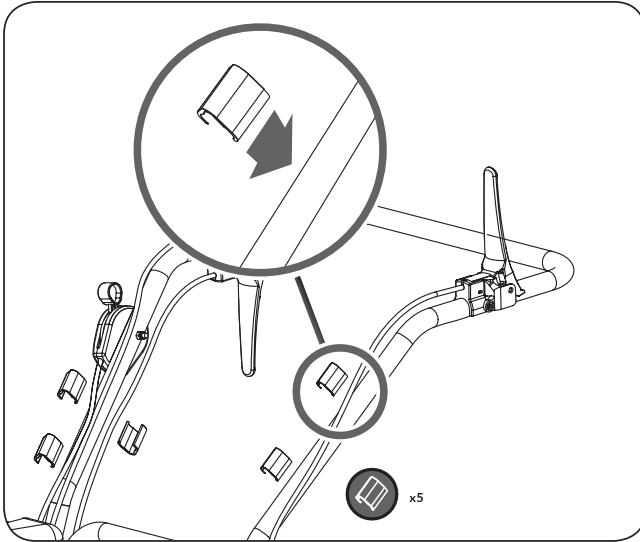

Figure 3c
3. Remove the cable clips, clipped on the upper handle, and secure all loose cables against the handle bar with the clips to prevent cable damage. (See **Figure 3c**)